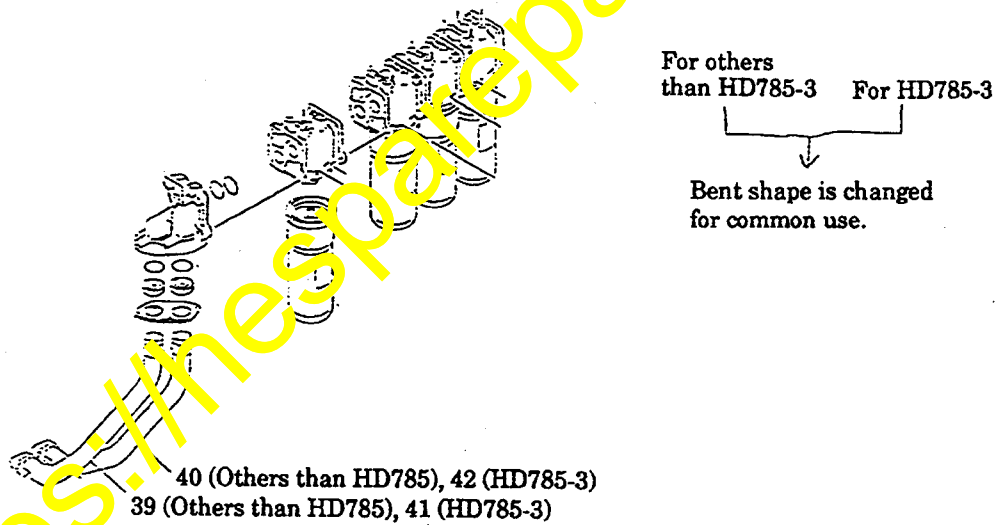

Fig. 33
- ② Common oil filter tube (Fig. 33)